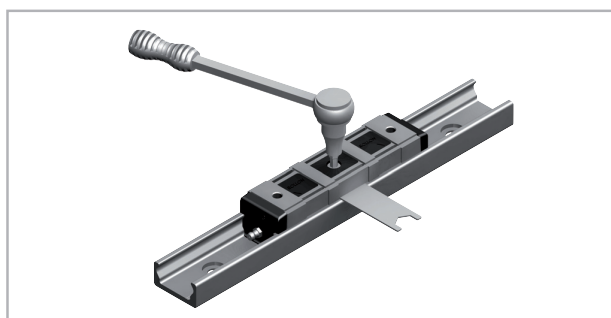

Fig. 98
(7) While holding the correct position of the roller with the adjustment key, the fixing screw can be carefully tightened. The exact tightening torque will be checked later (see fig. 98 and tab. 42).
(8) Move the slider in the rail and check the preload over the entire length of the rail. It should move easily and the slider should not have play at any location of the rail.
(9) For sliders with more than 3 rollers, repeat this process with each eccentric roller. Always start with each roller to be adjusted. Make sure that all rollers have even contact to the tracks.
(10) Now tighten the fixing screws with the specified tightening torque from the table while the flat key holds the angle adjustment of the pin. A special thread in the roller pin secures the set position.
(11) Now install the wiper of the CSW- and CDW-sliders and ensure a proper lubrication of the raceways.